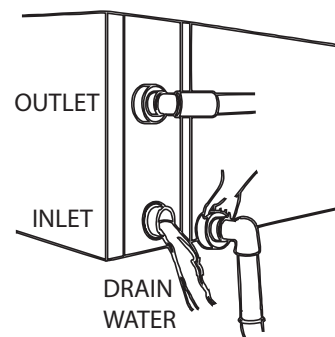

Figure 11. Inlet and Outlet Connections
3. Unscrew the water union of the outlet pipe (top) to let water flow out completely from the inlet (bottom). See **Figure 11**.